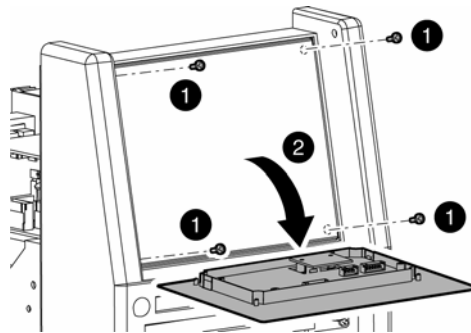

Figure 12. VRD ON/OFF Step B,C
- b) Remove four mounting screws from the control panel. (see Figure 12)
- c) Access the VRD control by gently prying back the front panel controls to reveal the VRD ON/OFF potentiometer. (see Figure 12)